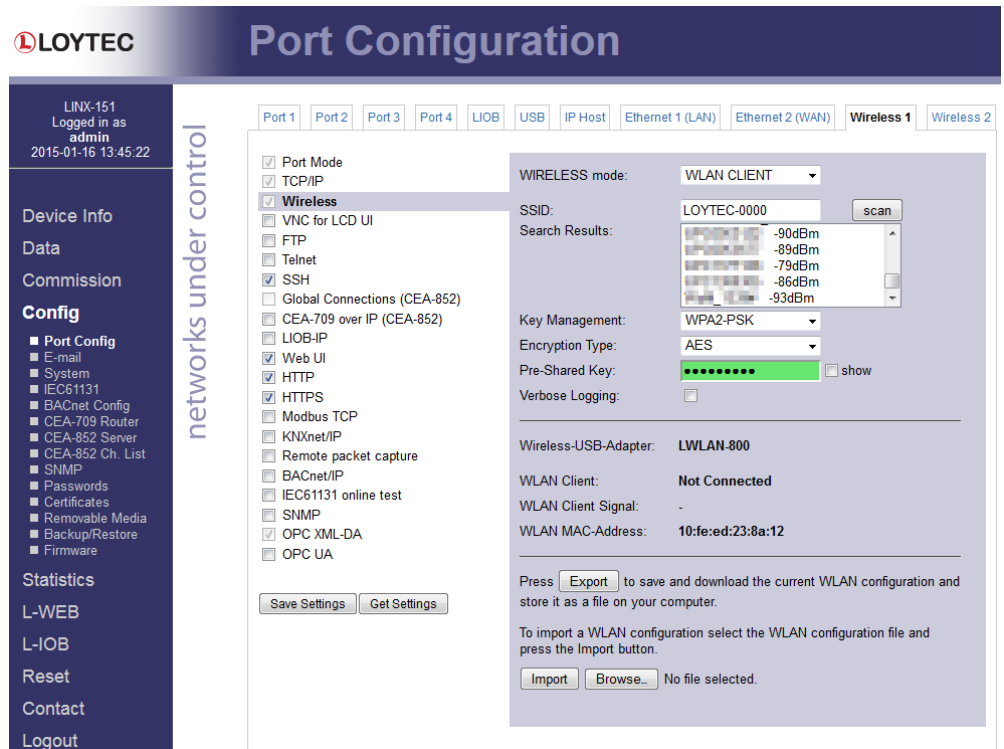

Figure 68: WLAN Client Settings
**Client Mode.** A wireless interface in client mode has the settings shown in Figure 68.